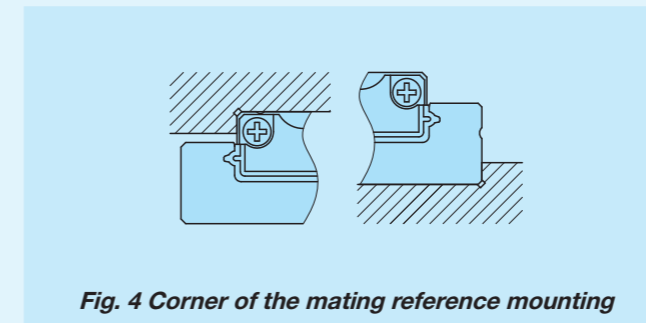

Fig. 4 Corner of the mating reference mounting
For the opposite corner of the mating reference mounting, it is recommended to have relieved fillet as indicated in Fig. 4. Recommended value for the shoulder height and corner radius on the mating side is indicated in Table 13.
Note (1) In sizes 25 and 30, provide a relieved fillet as shown in Fig. 4.